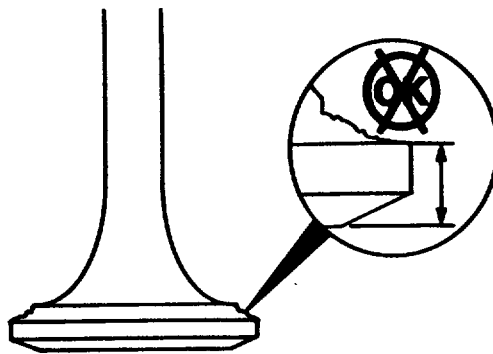

FIGURE 4-8. Valve Head Height Measurement.
- (13) Place valve on a flat surface. Check the height of the valve head at the outside diameter (FIG. 4-8). Verify height is at least 0.120 inch (3.05 mm) for exhaust valve and 0.085 inch (2.16 mm) for intake valve. FIG. 4-8. Valve Head Height Measurement.